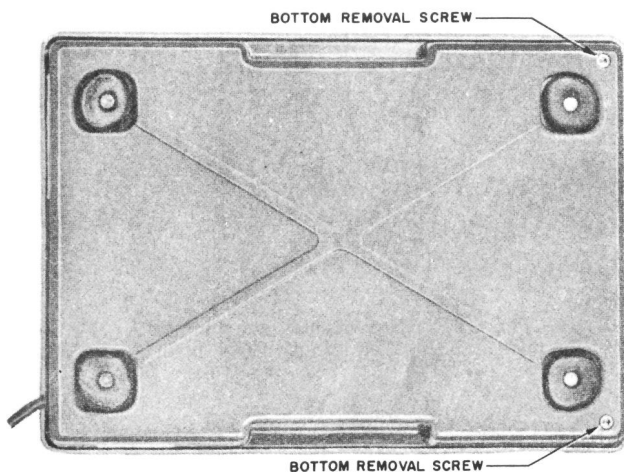

Fig. 4 — Location of Bottom Removal Screws
1.09 Cover removal of the 2A telephone answering set is shown in Fig. 4, 5, and 6.